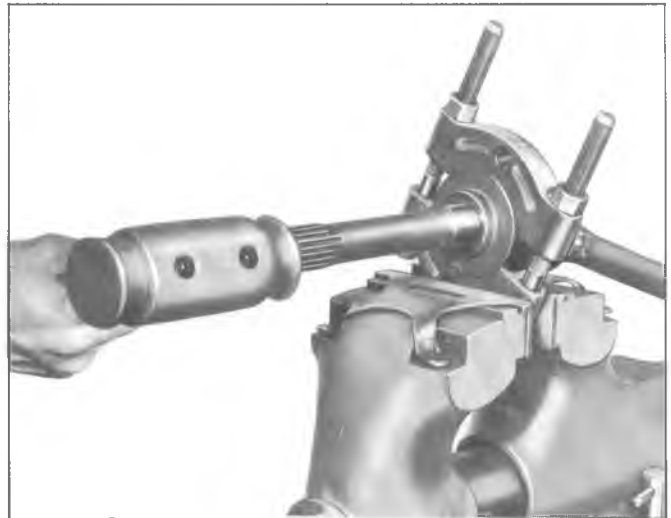

Fig. 29—Removing Axle Slingers
9. Remove axle slingers by placing into a vise and tapping off as shown in Figure 29 or using a press.